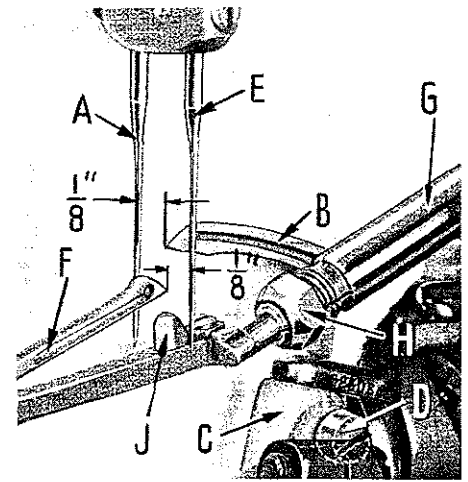
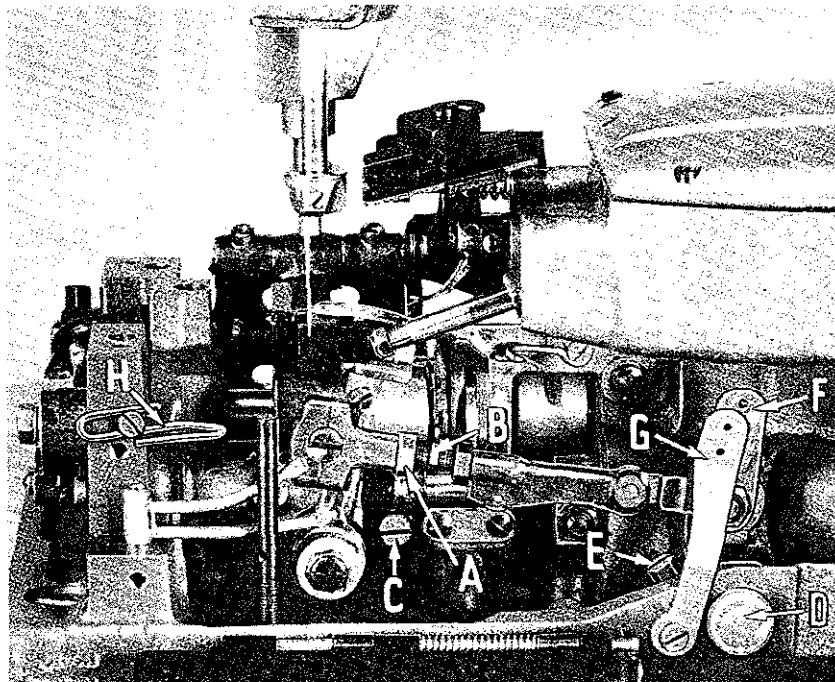

Fig. 3
Fig. 4
Insert the rear needle (A, Fig. 3), Type 108 GS, size as specified and insert the 401 stitch looper (B) in the looper rocker (C), and tighten screw (D). Rotate hand-wheel in operating direction until back looper is in the extreme right position. The looper should be set so that its point is $\frac{1}{8}$ inch from the center of the back needle, as in Fig. 3. Looper gauge No. 21225- $\frac{1}{8}$ can be used advantageously in making this adjustment. If adjustment is needed, loosen nut (A, Fig. 4) (it has a left hand thread) and also loosen nut on right end of connecting rod (B), turn connecting rod forward or backward to obtain $\frac{1}{8}$ inch, and retighten both nuts.
Insert the front needle (E, Fig. 3) and also insert the 503 stitch looper (F) in the lower looper bar (G), and tighten nut (H). Rotate handwheel in operating direction until front looper is in the extreme left position. The looper should be set so that its point is $\frac{1}{8}$ inch from the center of the front needle, as in Fig. 3. Looper gauge No. 21225- $\frac{1}{8}$ can be used advantageously in making this adjustment. If adjustment is needed, loosen nut (H) and slide looper in or out of its holder and retighten nut.
With the back looper (B, Fig. 3) in the looper rocker (C), turn the handwheel in the operating direction until the looper moves to the left and its point is even with left side of the needle (A). Note the height of the eye of the needle with respect to the looper point, then turn the handwheel in the reverse direction until the looper point again moves to the left and is even with the left side of the needle.
If the motions are synchronized, the height of the eye of the needle with respect to the looper point will be the same. A variation of .005 inch is allowable. If the distance from the eye of the needle to the point of the looper is longest when the pulley is turned in operating direction, move the looper drive lever shaft synchronizing stud (D, Fig. 4) to the rear. Moving it in opposite direction acts the reverse.
Moving of the looper drive lever shaft synchronizing stud is accomplished as follows: Loosen clamp screw (E, Fig. 4) of looper drive lever.
The 503 looper thread take-up (F, Fig. 4) should be positioned approximately on the center line of the looper drive lever as per Fig. 4. Eyelets (G, and H, Fig. 4) are positioned correctly when the lower looper thread is taut as the spreader reaches the left end of its travel.
To control the ratio of thread pulled during the leftward movement, use the thread take-up eyelet (G, Fig. 4).
Moving this eyelet to the left causes more looper thread to be drawn on the left hand stroke of the spreader, and moving it to the right causes less looper thread to be drawn. Moving this eyelet to the right or left also affects the drawing of the looper thread at the extreme left position. To readjust for this condition, move the eyelet (H, Fig. 4) to the right to reduce the thread drawn or to the left to reduce the amount of slack. The two eyelets (F and G) are to be adjusted in conjunction with each other so that the following conditions are met: (1) $\frac{1}{3}$ of the looper thread is drawn during the left stroke of spreader, and (2) No looper thread is drawn at the extreme end of stroke.